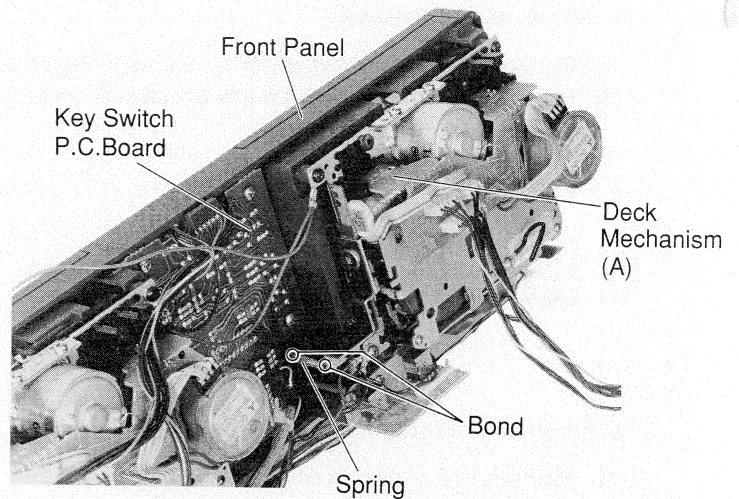

Figure 7
- (1) After removal of the front panel, remove a spring as shown in Figure 7.